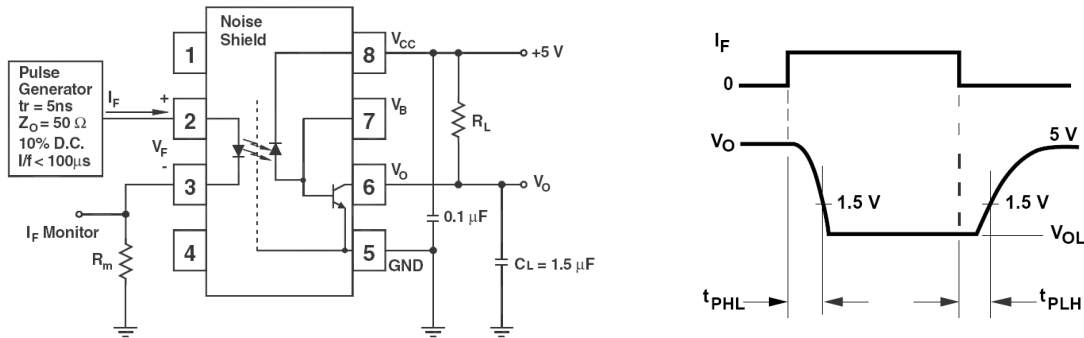

Figure 1: Single Channel Test Circuit for  $t_{PHL}$  and  $t_{PLH}$
1. A 0.1μF or bigger bypass capacitor for VCC is needed as shown in Fig.1